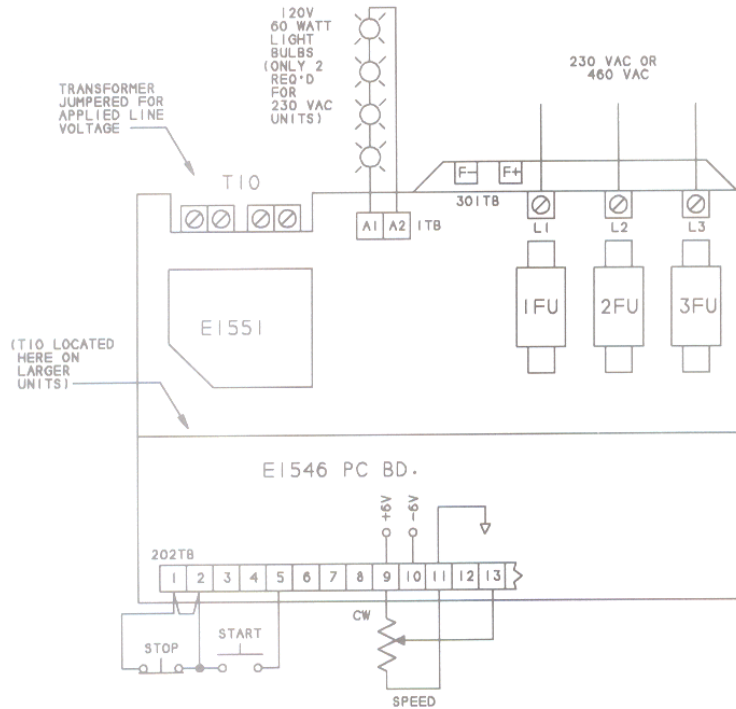

Figure 14
1) Turn power off. Disconnect motor armature and field leads if not already disconnected from the PRD12B control. Connect light bulbs in the armature circuit as shown in Figure 14. Make sure that the "ARM/TACH" mini-jumper is in the "ARM" position. (Refer to Section 9.5 for location of this jumper.) Be sure that Lugs 1 & 2, Lugs 12 & 13, Lugs 14,15 & 16 and Lugs 28,29 & 30 of terminal blocks 202TB and 203TB) are jumpered together by either metal straps or operator controls. Also, if the PRD12B does not have the contactor option, Lugs 30 and 31 must be jumpered. Temporarily defeat field loss protection (Section 5.6). Turn power on and start the PRD12B control. Vary the speed command from zero to maximum. Brightness of the bulbs should vary from zero to maximum. (Maximum armature voltage will be approximately 240 VDC on 230 VAC controls and 500 VDC on 460 VAC controls.)
If the CR signal at resistor R115 is correct but the bulbs still do not burn, test the voltage at tubular test terminal TP9 with respect to the COM test terminal. Both test terminals are located on bottom board E1544 and are about 2" to right of transformer T2. This voltage should vary from zero volts to negative 6 volts as the speed potentiometer in Figure 14 is rotated from zero to the full clockwise position. If this voltage is not as stated, the problem is probably on the E1546 circuit board or in the inter-board ribbon cable. If this voltage is as stated and the bulbs do not burn, the problem is probably in the E1544 board or the E1545 board.